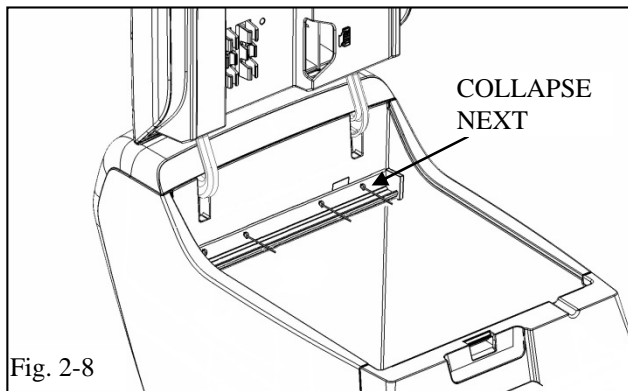

Fig. 2-8
- (w) Collapse the outboard rivet and then the 2 center rivets (Fig. 2-8).